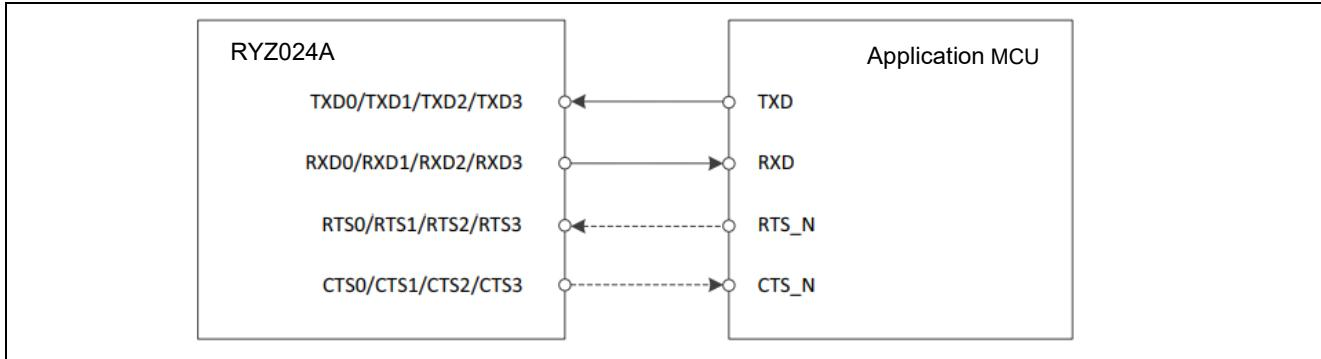

Figure 3. UART Convention and Flow Control
- RTS0, RTS1, RTS2, RTS3: Ready-To-Send signals resp. UART0, UART1, UART2, UART3 active low, of the RYZ024A. To be connected to the RTS of the remote UART device. Tie to a 1 kOhm pull-down on RTS pin when flow control is not used. If it is connected to an external component (like a RS232 driver), the user should make sure that this component will present a low level to the RYZ024A. See Figure 3.
Figure 3 represents the typical implementation for the hardware flow control.